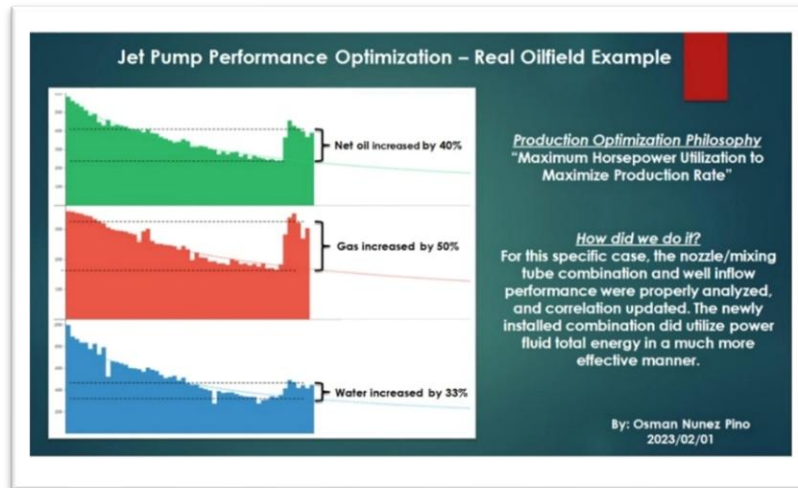

Figure 12: Positive Effects of Nozzle/Throat Combination Optimization
- This nozzle/throat optimization procedure needs to be repeated every four weeks during the early production stage of the well, and every six to eight weeks during the late production stage. Please see figures 12 and 13.